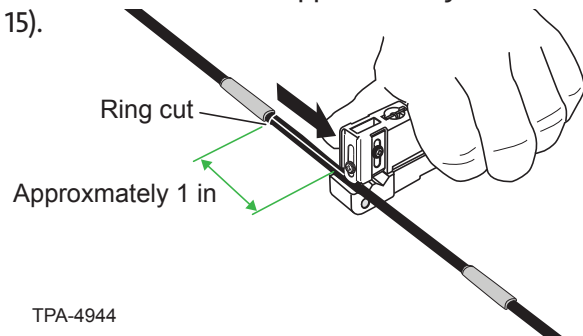

Figure 15
**Step 3:** Use the end of the Ideal® tool with a rounded blade installed. Make an approximately 1-in longitudinal cut two ridges on each side (Figure 15).